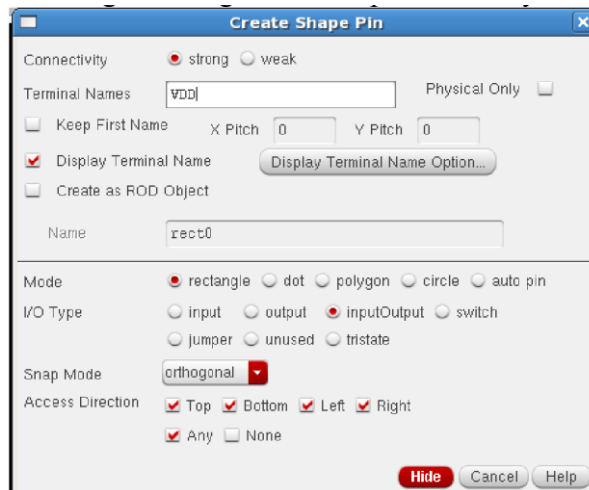

Figure 13. Adding a pin to layout
- To add a pin, select Create > Pin. A several points you need to carefully check when adding a pin is given below. Please follow those carefully at all times, since a bunch of errors are coming from here. Refer to the Figure 13 as an example.